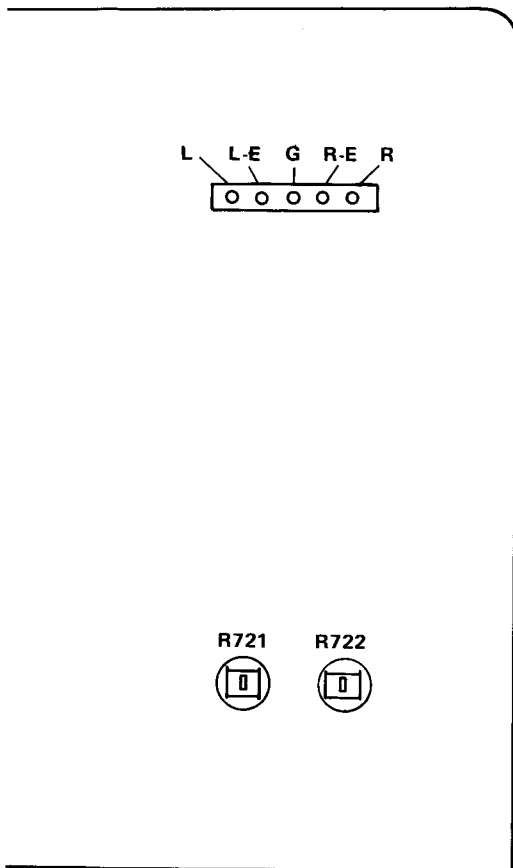

Fig. 22
1. Set R721 (R722) located on TXX-129-1 to center position before pressing the power switch on. Refer to Fig. 22.
3. Adjust R721 (R722) for DC VTVM reading of 0 mV. Refer to Fig. 22.